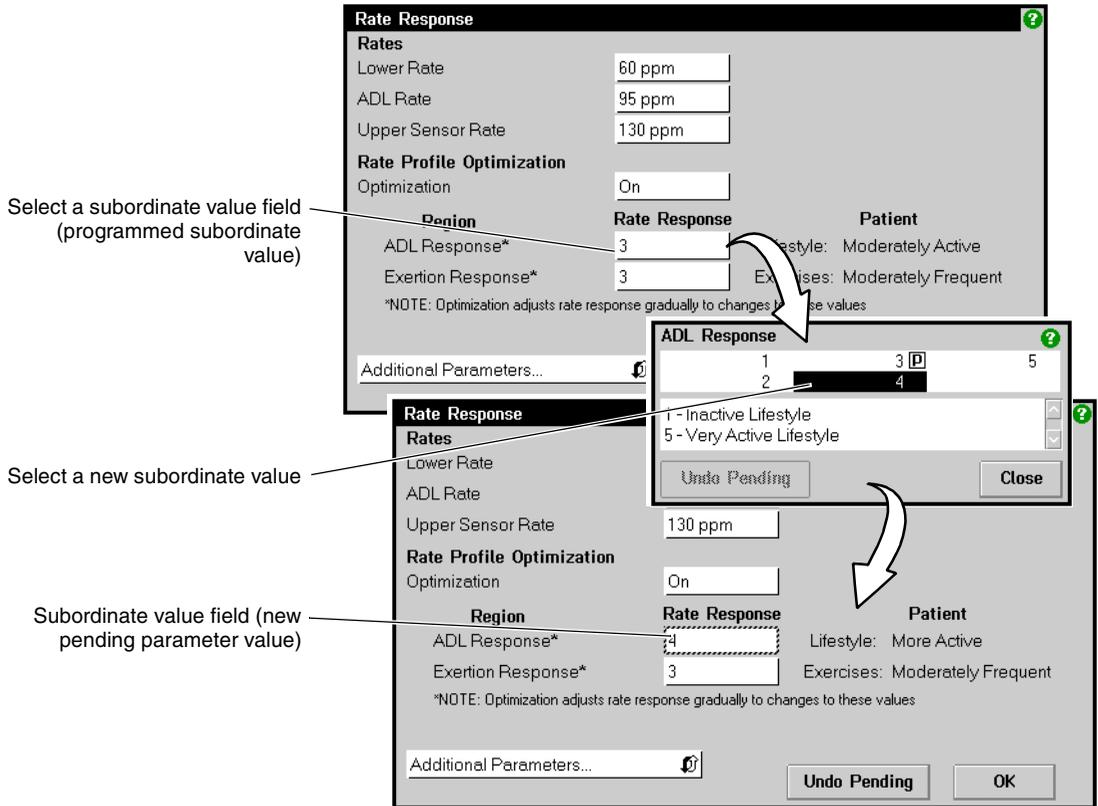

Figure 7-4. Programming subordinate parameter values
1. Select the desired subordinate parameter below the primary parameter or within the name field. For example, select ADL Response in the Rate Response window, as shown in Figure 7-4.